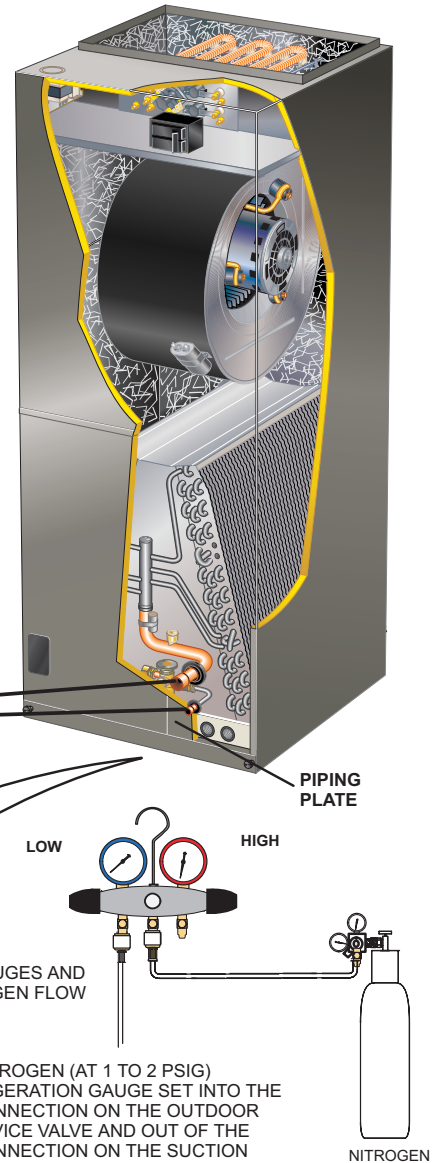

FIGURE 17. Brazing Connections
- 4 - Connect the suction and liquid lines to the evaporator coil. Take care to protect the cabinet and internal components as detailed in FIGURE 17.